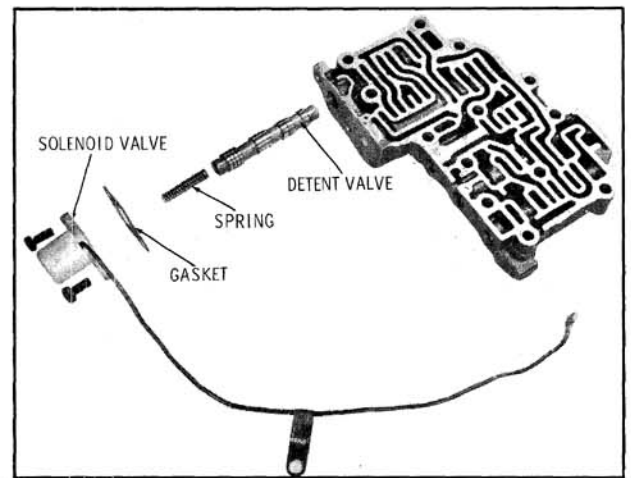

Fig. 6-400 Installing Detent Valve and Detent Solenoid
4. Install detent valve and spring. Install gasket to solenoid with notch facing bottom of valve body. Install solenoid to valve body using two 7/16" bolts. (Fig. 6-400)